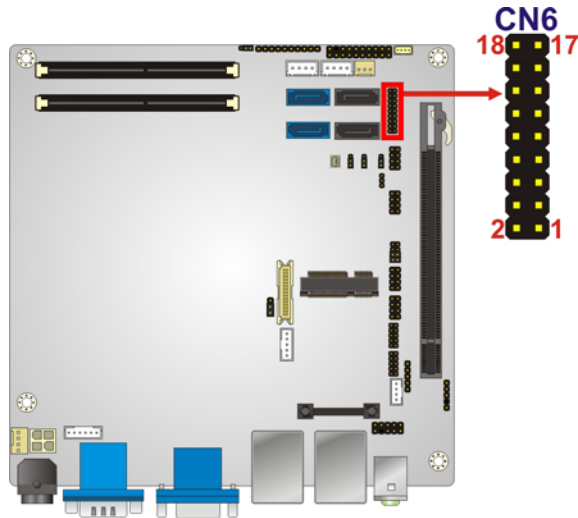

Figure 3-6: BIOS Debug Port Location
- CN Location:** See **Figure 3-6**